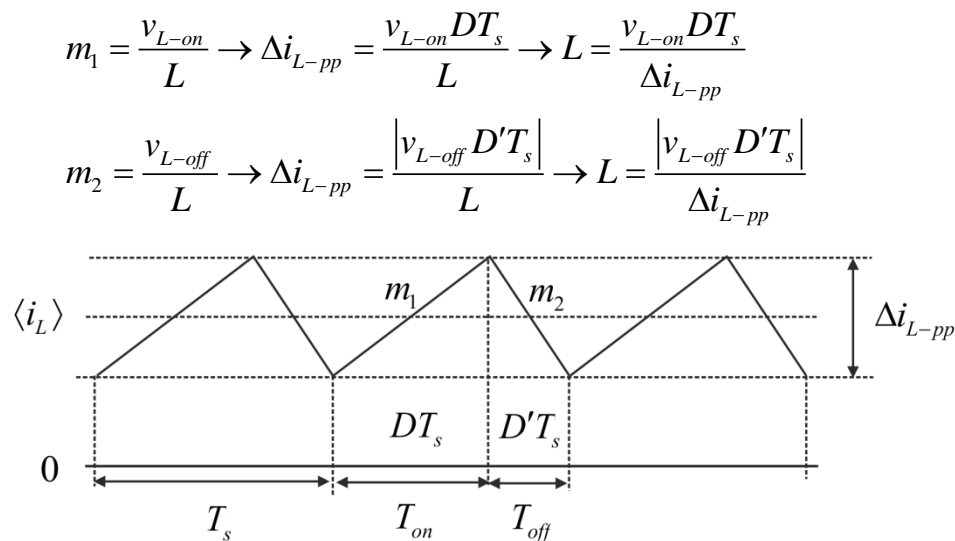

Fig. 4.12 Inductor-current-waveform in CCM
- The inductance value is selected based on the defined peak-to-peak inductor-current ripple value shown in Fig. 4.12. This peak-to-peak ripple value can be computed based either on the up slope ( $m_1$ ) or down slope ( $m_2$ ) of the inductor-current instantaneous value. The slope equals its derivative, respectively. The average inductor current  $\langle i_L \rangle$  lies exactly in the middle of the ripple band. The peak-to-peak ripple can be computed by applying the on-time ( $v_{L-on}$ ) or off-time ( $v_{L-off}$ ) voltage across the inductor defined earlier for the basic converters. The usual value for  $\Delta i_{L-pp}$  equals 20 – 40 % of  $\langle i_L \rangle$ .